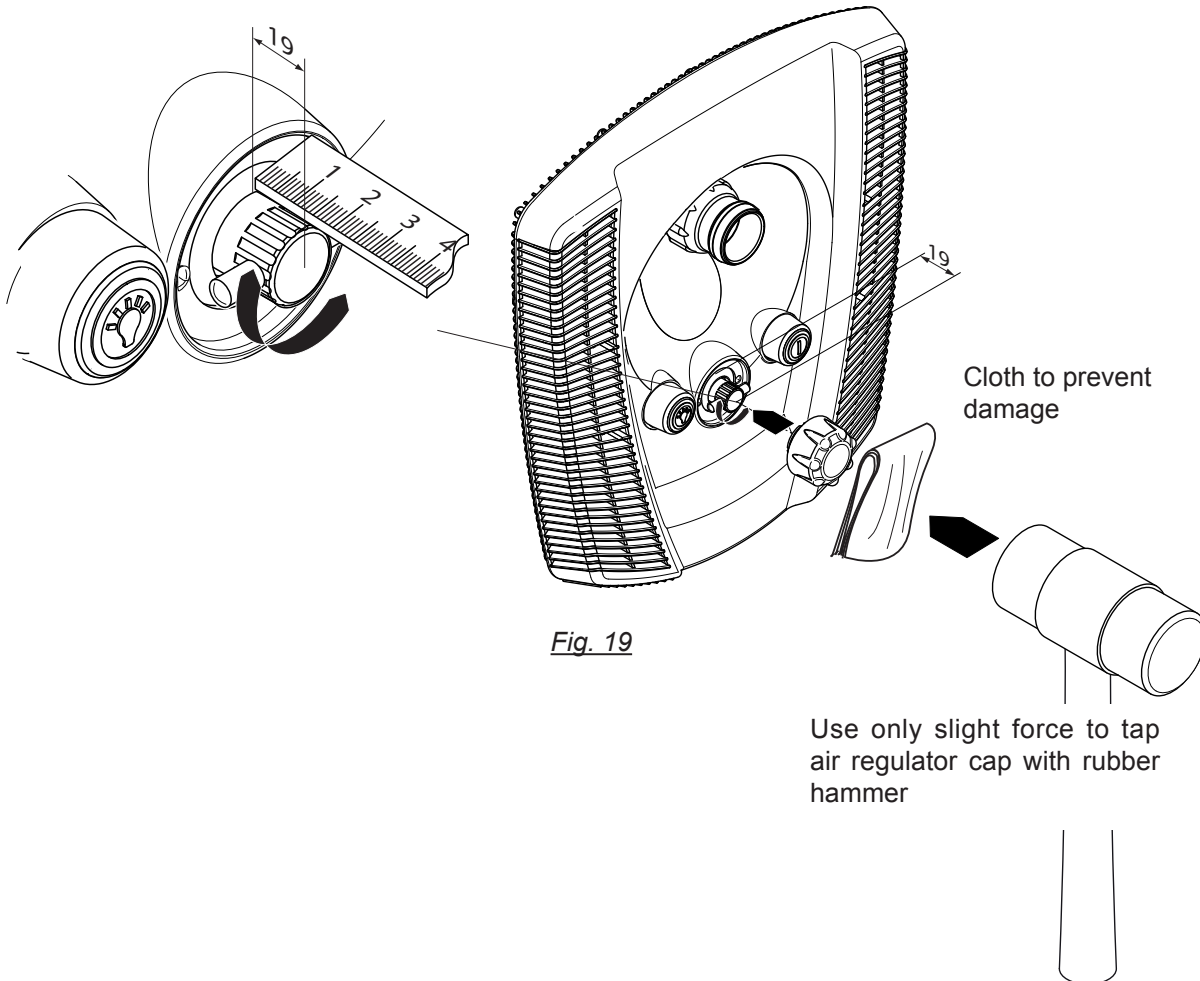

Fig. 19
- 9) Mount the cap for the air regulator. (Fig. 19)
- 10) Connect the jet pump (92) with the half fitting (98, 99, 100), the rubber bracket (79) and the corresponding clamps (75) on the suction and pressure side to the jet housing.